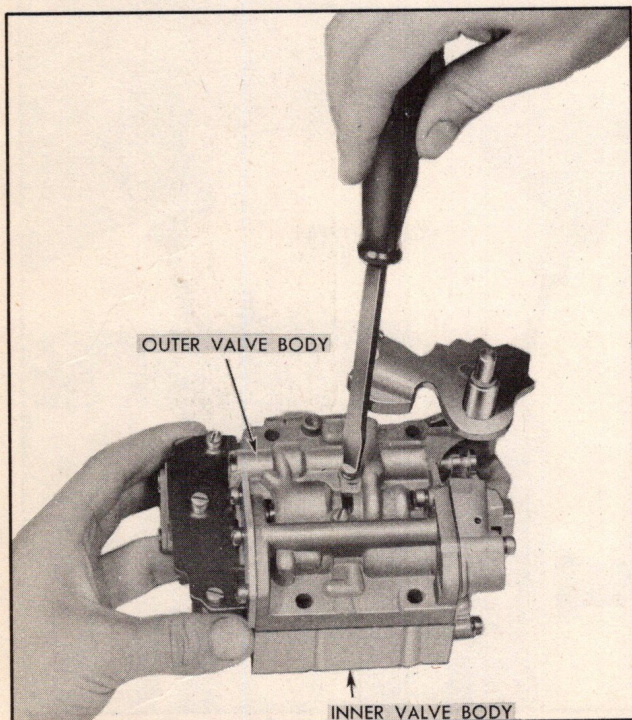

Fig. 11 Separating Inner and Outer Valve Body
3. Remove two (2) screws holding inner and outer valve bodies together (Fig. 11).